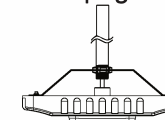

Figure 7
2. Unscrew the nut from 3/4"NPT stem, bring the stem hole on mounting bracket through 3/4"NPT stem, then screw the nut back to 3/4"NPT, and secure it in place (Figure 7).